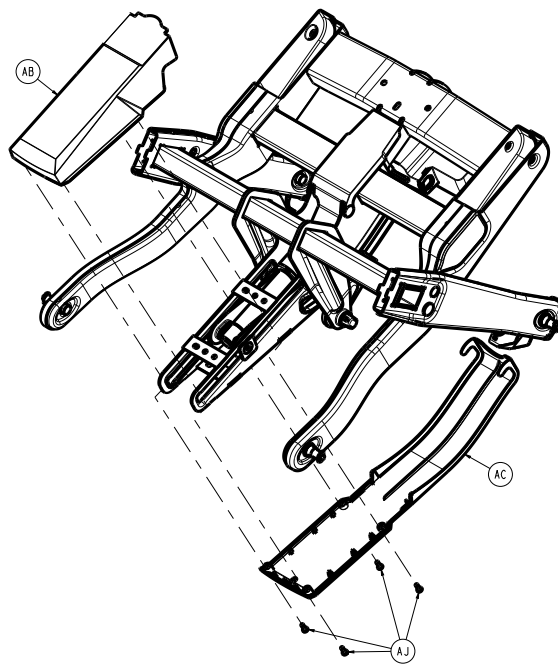

Figure 27 – Removing the lift covers
4. Using a T20 Torx driver, remove the four screws (AJ) that secure the lift arm bottom cover (AC) and lift arm top cover (AB) together (Figure 27). Remove and save the covers.